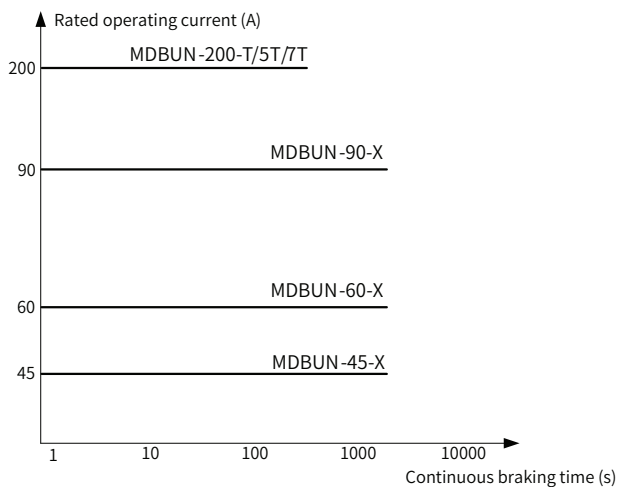

Figure 1-4 Load curve of the MDBUN series braking unit
(1) In Figure 1-4, X represents the braking unit with different voltage classes, namely 2T, T and 5T.
(2) Curves in Figure 1-4 represent the maximum continuous braking time of the braking unit under rated current. The maximum continuous braking time of the MDBUN-200-T/5T/7T is 4 min, with the braking frequency not higher than 50% and the interval time not shorter than 4 min. The maximum continuous braking time of MDBUN-45-X, MDBUN-60-X, and MDBUN-90-X is 30 min, with the braking frequency not higher than 50% and the interval time not shorter than 30 min.